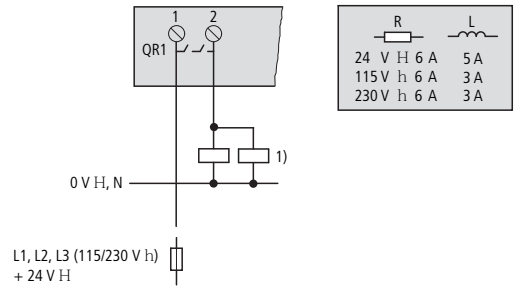

Figure 14: ES4P-221-DM... redundant relay output
- use of the internal redundant relay output QR1 (ES4P-221-DM...), a figure 14 on page 51.